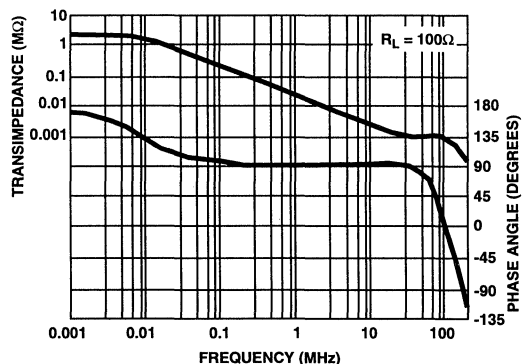
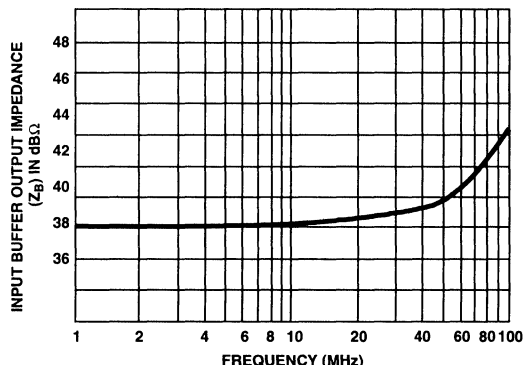

FIGURE 12. HA5020 TRANSIMPEDANCE vs FREQUENCY
FIGURE 13. HA5020 INPUT BUFFER OUTPUT RESISTANCE vs FREQUENCY
At low frequencies $h_{1B} = 50\Omega$ and $R_B/(\beta_0 + 1) = 25\Omega$ which corresponds to $Z_B = 75\Omega$, but at higher frequencies Z_B will vary according to Equation 28. This calculation is further complicated because β_0 and ω_T are different for NPN and PNP transistors, so Z_B also is a function of the polarity of the output. Refer to Figure 12 and Figure 13 for plots of the transimpedance (Z) and Z_B for the HA5020 [5]. Notice that Z starts to level off at 20MHz which indicates that there is a zero in the transfer function. Z_B also has a zero in its transfer function located at about 65MHz . The two curves are related, and it is hard to determine mathematically exactly which parameter is affecting the performance, thus considerable lab work is required to obtain the maximum performance from the device.